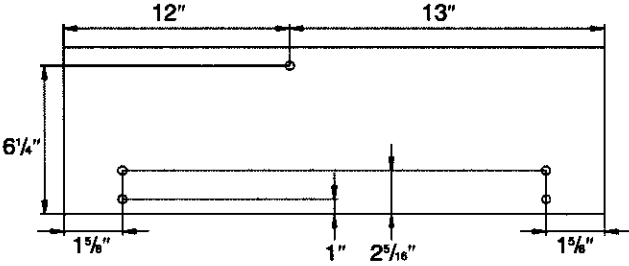

Figure 5 – Top Hole Pattern
- Location of pre-drilled holes used in attaching the top to the frame are indicated in Figure 5.